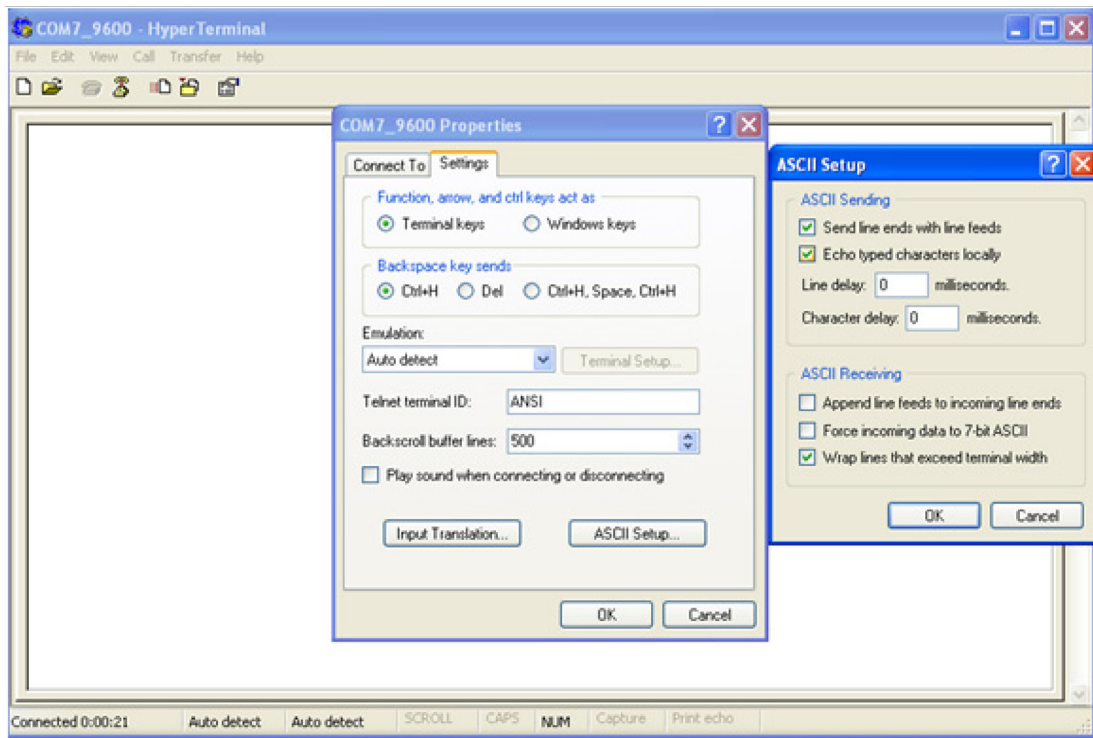

Figure 20-10. HyperTerminal Configuration
7. Configure the HyperTerminal. Click on the **OK** button to submit changes as shown in Figure 20-10.